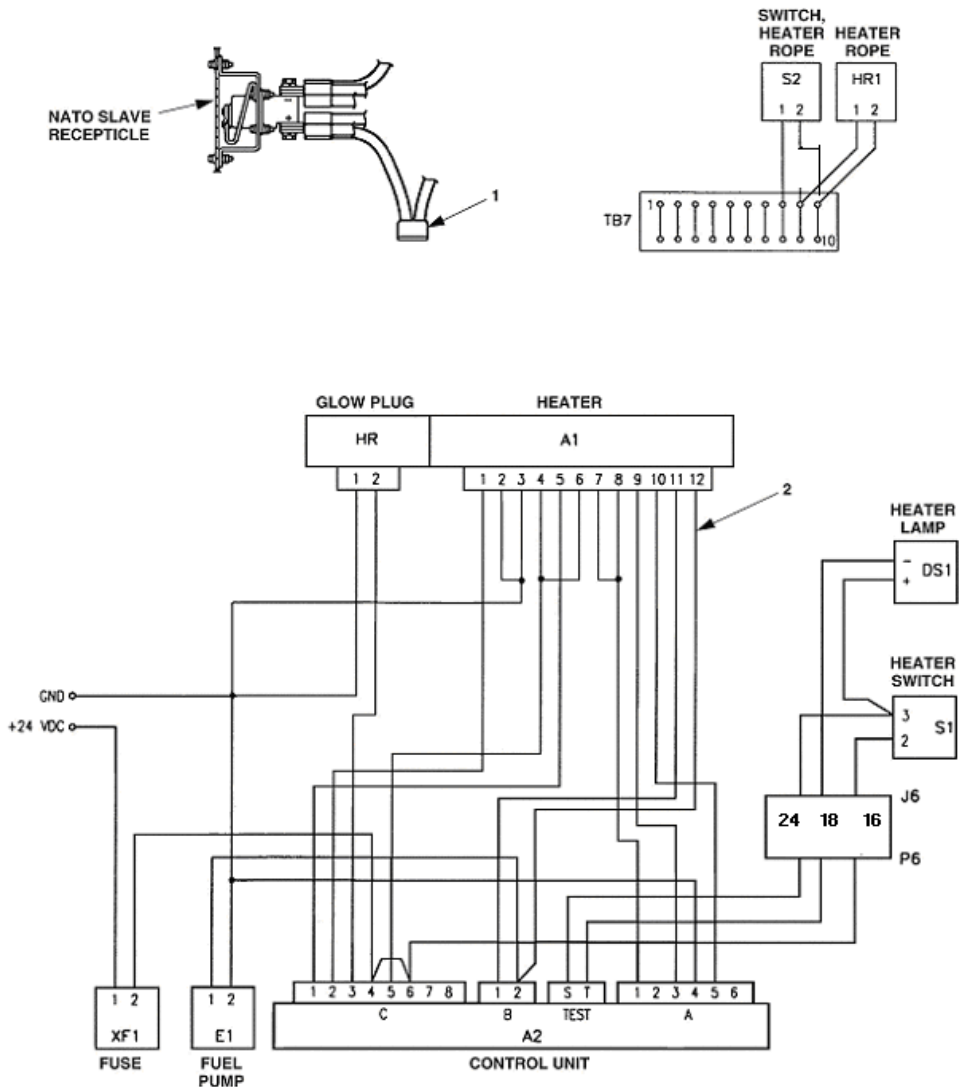
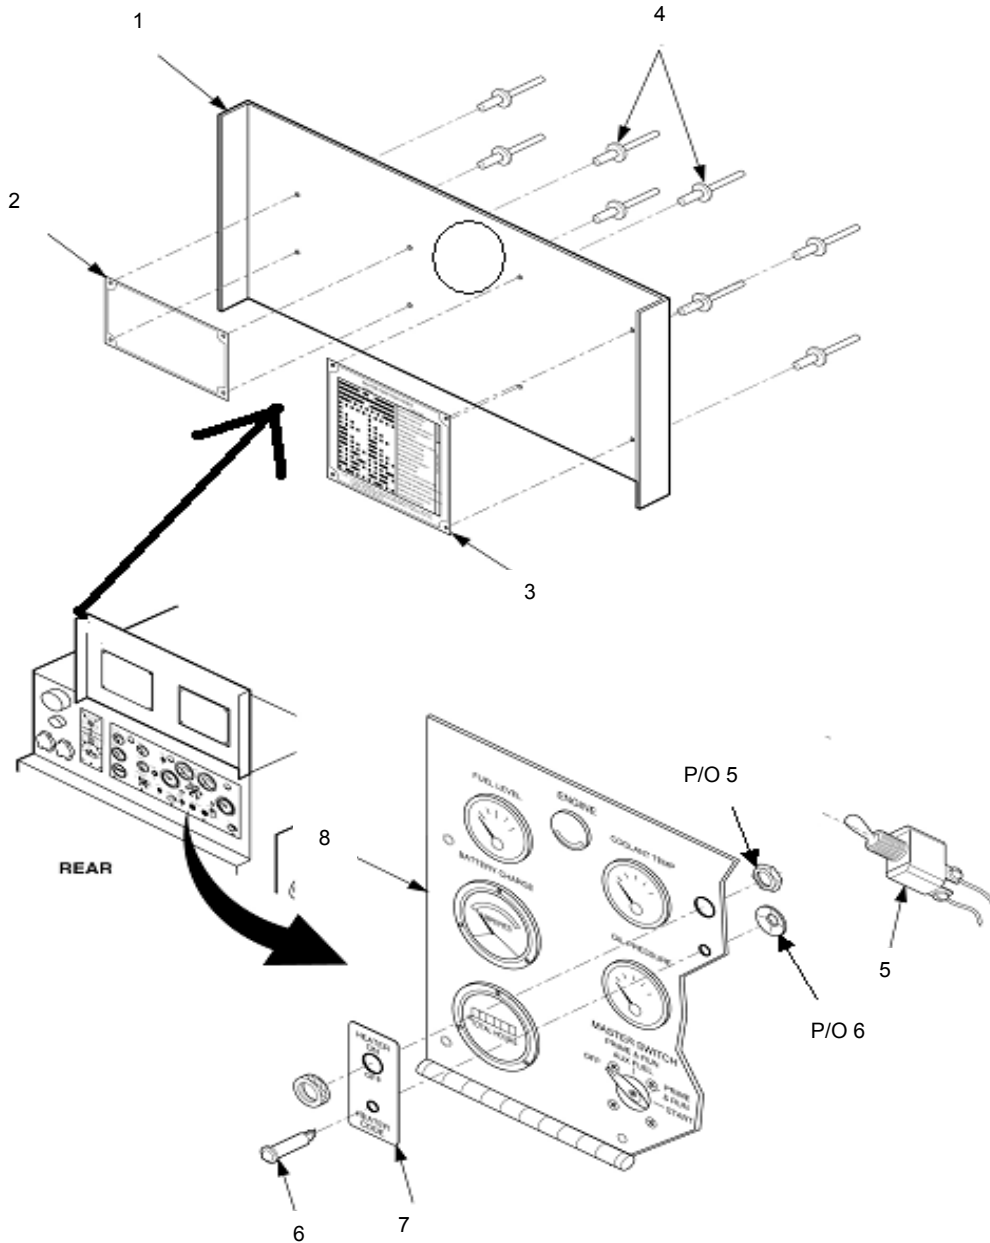
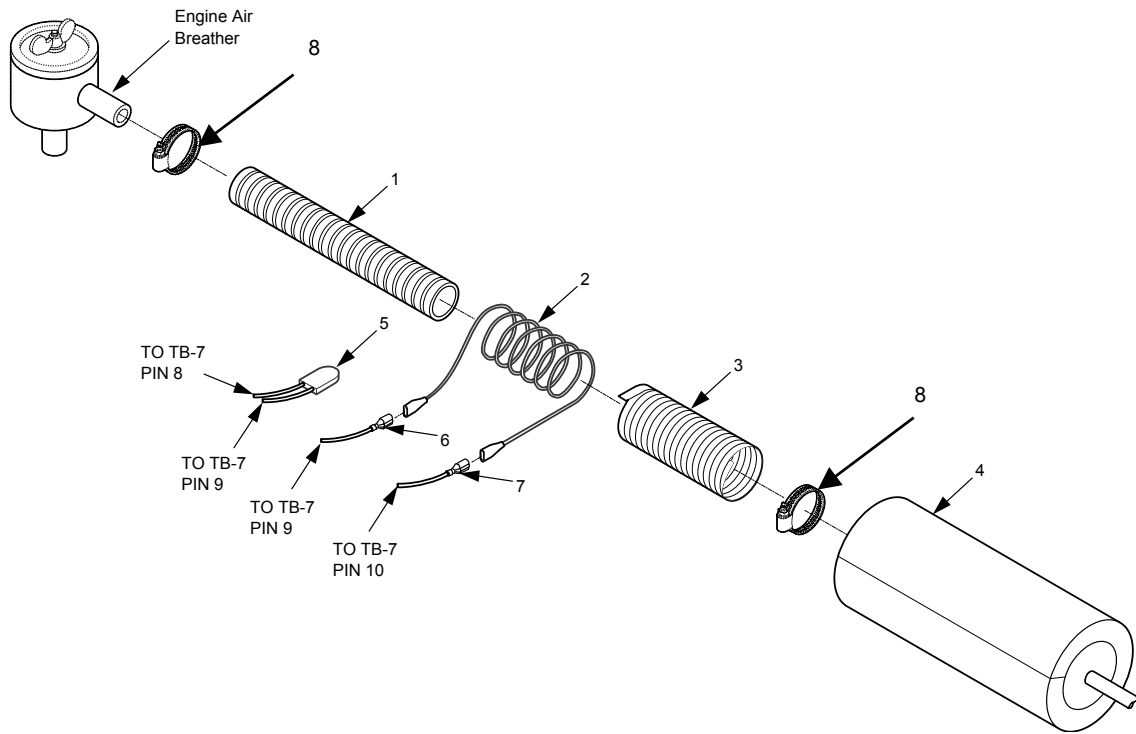

Figure 5-7. Wiring Harness Assembly
Figure 5-8. Cover and Instrument Panel Assembly
Figure 5-9. Breather Tube Heater Assembly
20. Remove pins from P6-16 and 24, Figure 5-7.
21. Install wiring harness (2) in accordance with wiring diagram. Secure harness with straps contained in kit.
22. Connect 24V terminal wire from fuse holder (1) to the positive side of the slave receptacle, Figure 5-7, and the ground wire to the negative side of the slave receptacle.
23. Drill a 1/5" hole in the front housing in a visible location next to the slave receptacle and mount fuse holder (1) using screw, flatwasher, lock washer, and nut provided in kit.
24. Open control panel access door (1), Figure 5-8.
25. Locate operating instruction plate (2) and heater function codes plate (3) and match drill holes in control panel access door (1). Plates shall be readable when the door is open.
26. Install rivets (4). Rivet head shall be to the outside of the unit.
27. Remove toggle switch (5) and wire 172A from TB5-9 and wire 190D from TB6-8. Tie back switch and wires in harness with straps contained in kit.
28. Locate heater switch label (7), with existing hole for switch, and match drill hole in control panel (8) for indicator light (6).
29. Install heater switch label (7), indicator light (6), and toggle switch (5), with the keyway side down, to control panel.
30. Using a pin removal tool, remove wire 172C from J6-18, Figure 5-7, and tie back in harness with straps contained in kit.
32. Install three electrical leads in accordance with wiring diagram (refer to Figure 5-7). Secure leads with straps contained in kit.
33. Remove clamps (8), Figure 5-9, and discard hose from crankcase breather air intake tube in accordance with TM 9-6115-644-24. Wrap rope heater (2) assembly spirally on new air breather hose (1) provided in kit approximately five (5) revolutions, leaving approximately six (6) inches of rope heater (2) on each end of hose. Wrap rope heater (2) and air breather hose (1) with foil tape (3) provided in kit. Install pipe insulation (4) over air breather hose (1), rope heater (2), and foil tape (3), leaving rope heater wires exposed for electrical connection. Install assembled air breather hose (1) between crankcase breather and air intake hose. Secure air breather hose (1) with clamps (8) removed from above.
34. Install Rope Heater to TB-7, HR1 inside output box and electrical leads in accordance with wiring diagram, Figure 5-7. Secure leads (6 and 7), Figure 5-9, with straps contained in kit.
35. Install thermostat assembly (5), Figure 5-9, to TB-7 pins 8 and 9.
42. With engine running, start heater. Check the heater indicator light (6), Figure 5-8, per the heater function codes plate (3) for heater operation.
45. Locate identification plate (2), Figure 5-8, below existing plates on left side of front housing. Match and drill holes in housing and install four rivets.